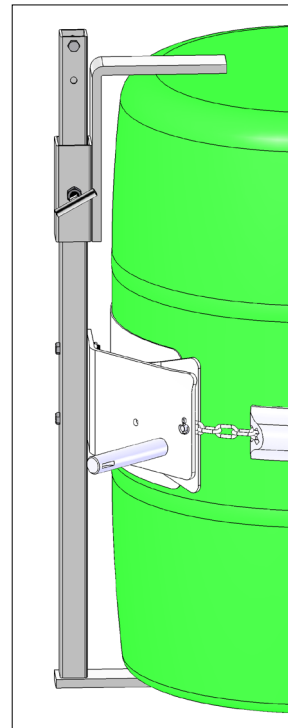

Figure 2.1
1. **Stainless Steel Bracket Assembly Kit # 4556SS-P** is **required** to handle a RIMLESS plastic drum (figure 2.1), and is also recommended for a fiber drum. The Bracket adjusts for a 31" to 39" (79 to 99 cm) tall drum. You can also handle a rimmed drum with the Bracket installed.